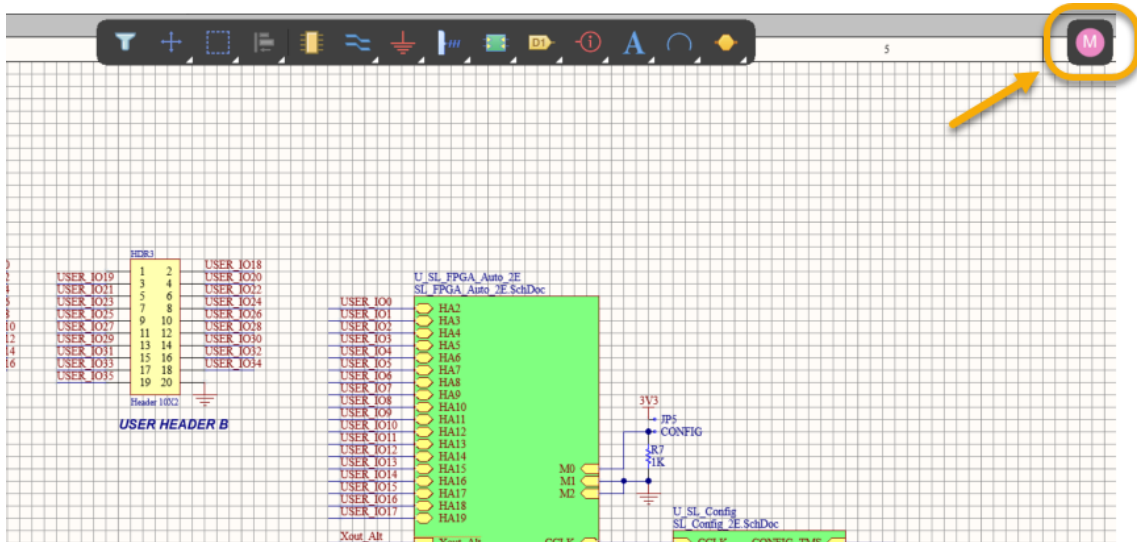

Figure 2. Other Users that opened the Document / Project
- If you check the upper left corner of the workspace you can see icons representing other persons that opened the project / document, Figure 2.